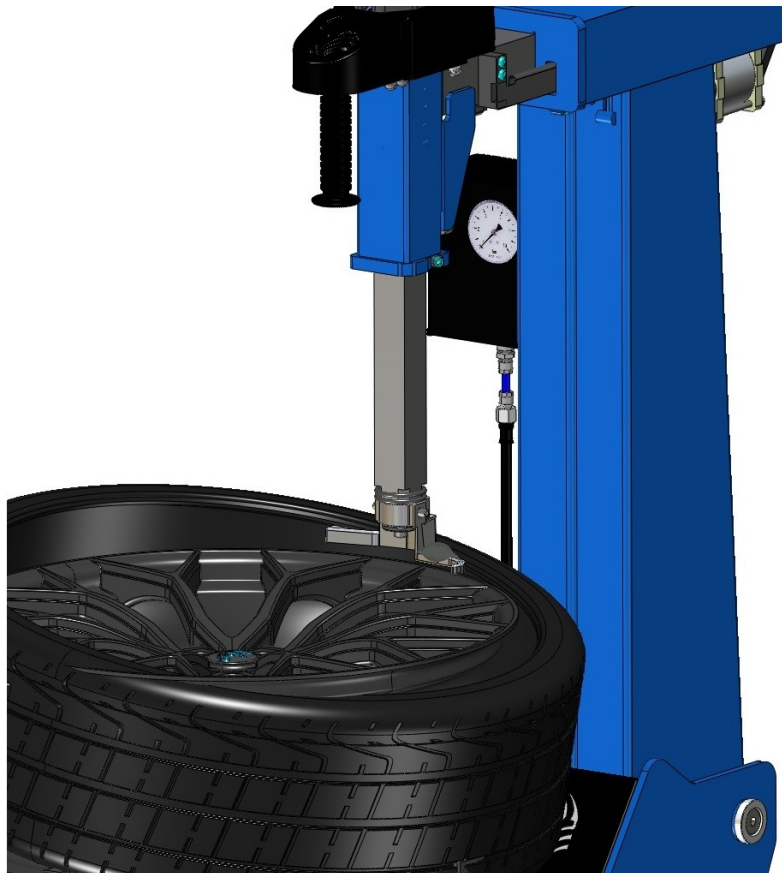

Fig. 13. Tyre mounting.
- Put the bead on the working head foot (fig. 11, item 3) and push it under the head (fig. 11, item 2) - as in figure 13.